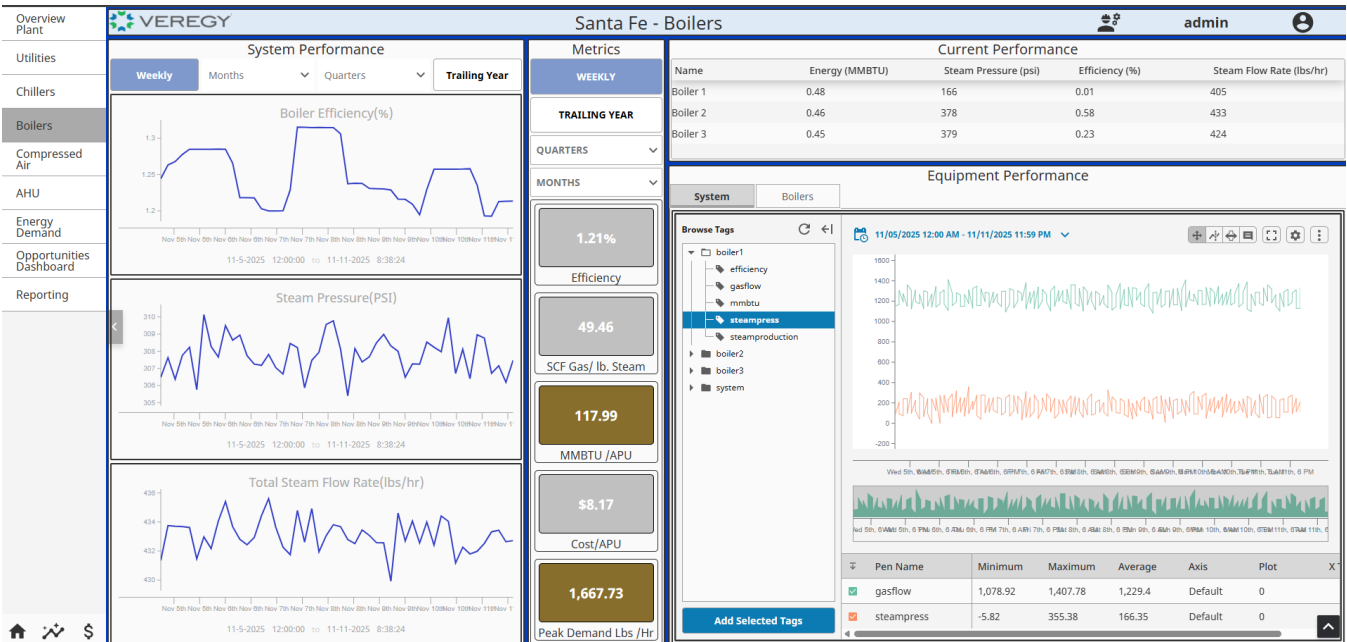

FIGURE 7: BOILER DASHBOARD W/ TRENDS
- System Tab - Line Graph (Figure 7):